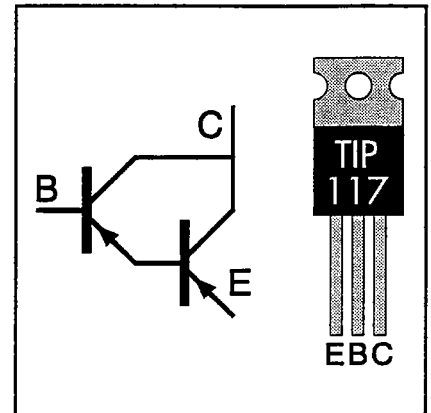

Figure 5-4. Darlington pair transistor, front view
- 2 Using an ohmmeter or in-circuit transistor tester, check Q17 (Figure 5-4), a TIP117 Darlington pair transistor, replace it if necessary.